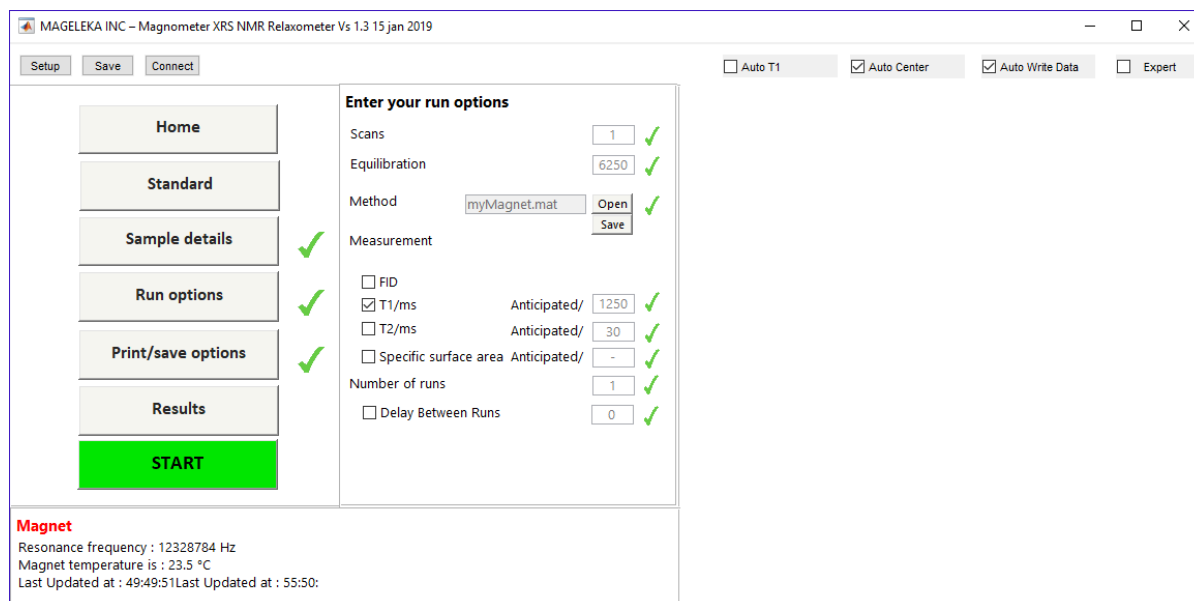

FIGURE 17.
STEP (1). Set the “Anticipated” time for “T1/ms” to “1250”. Leave the “Number of scans” and “Number of runs” each as “1”, as can be seen here (Fig. 17):